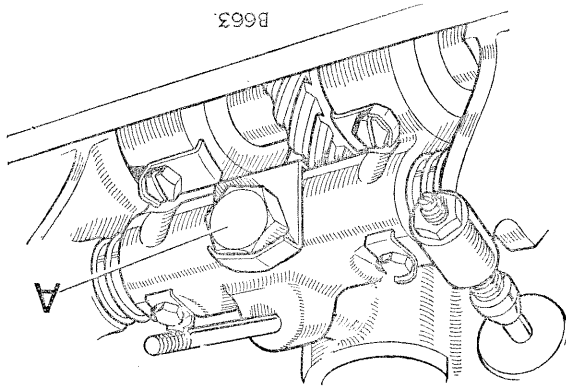

Fig. A-1—Distributor housing location bolt
1. Remove the hollow bolt locating the distributor housing. Withdraw the distributor housing, and remove oil pump drive shaft, Fig. A-1.